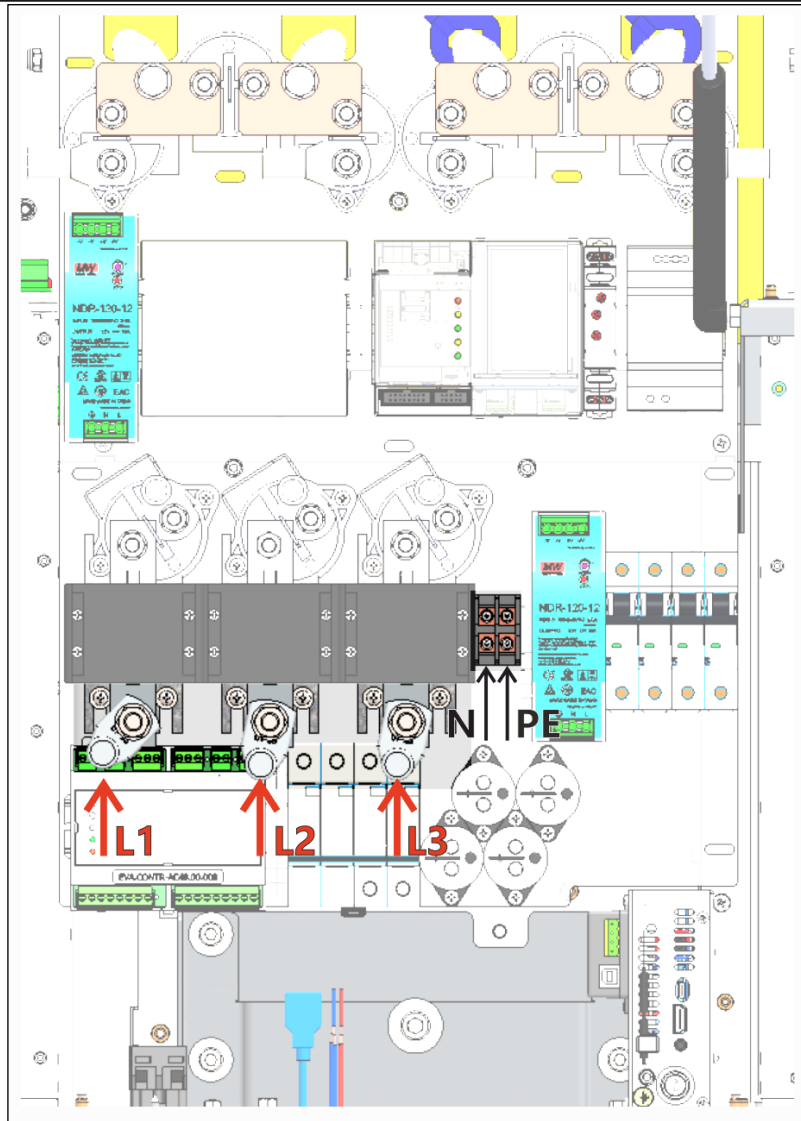

Figure 5.5. Power cable connection diagram
- Connect the power supply cable to the corresponding input busbars (as shown in Figure 5.5). In the case of connection with a 4-conductor cable, external grounding should be performed with a wire with a cross section of at least 25 mm², using an M10 bolt connection with the inscription "RE" located in the terminal compartment.